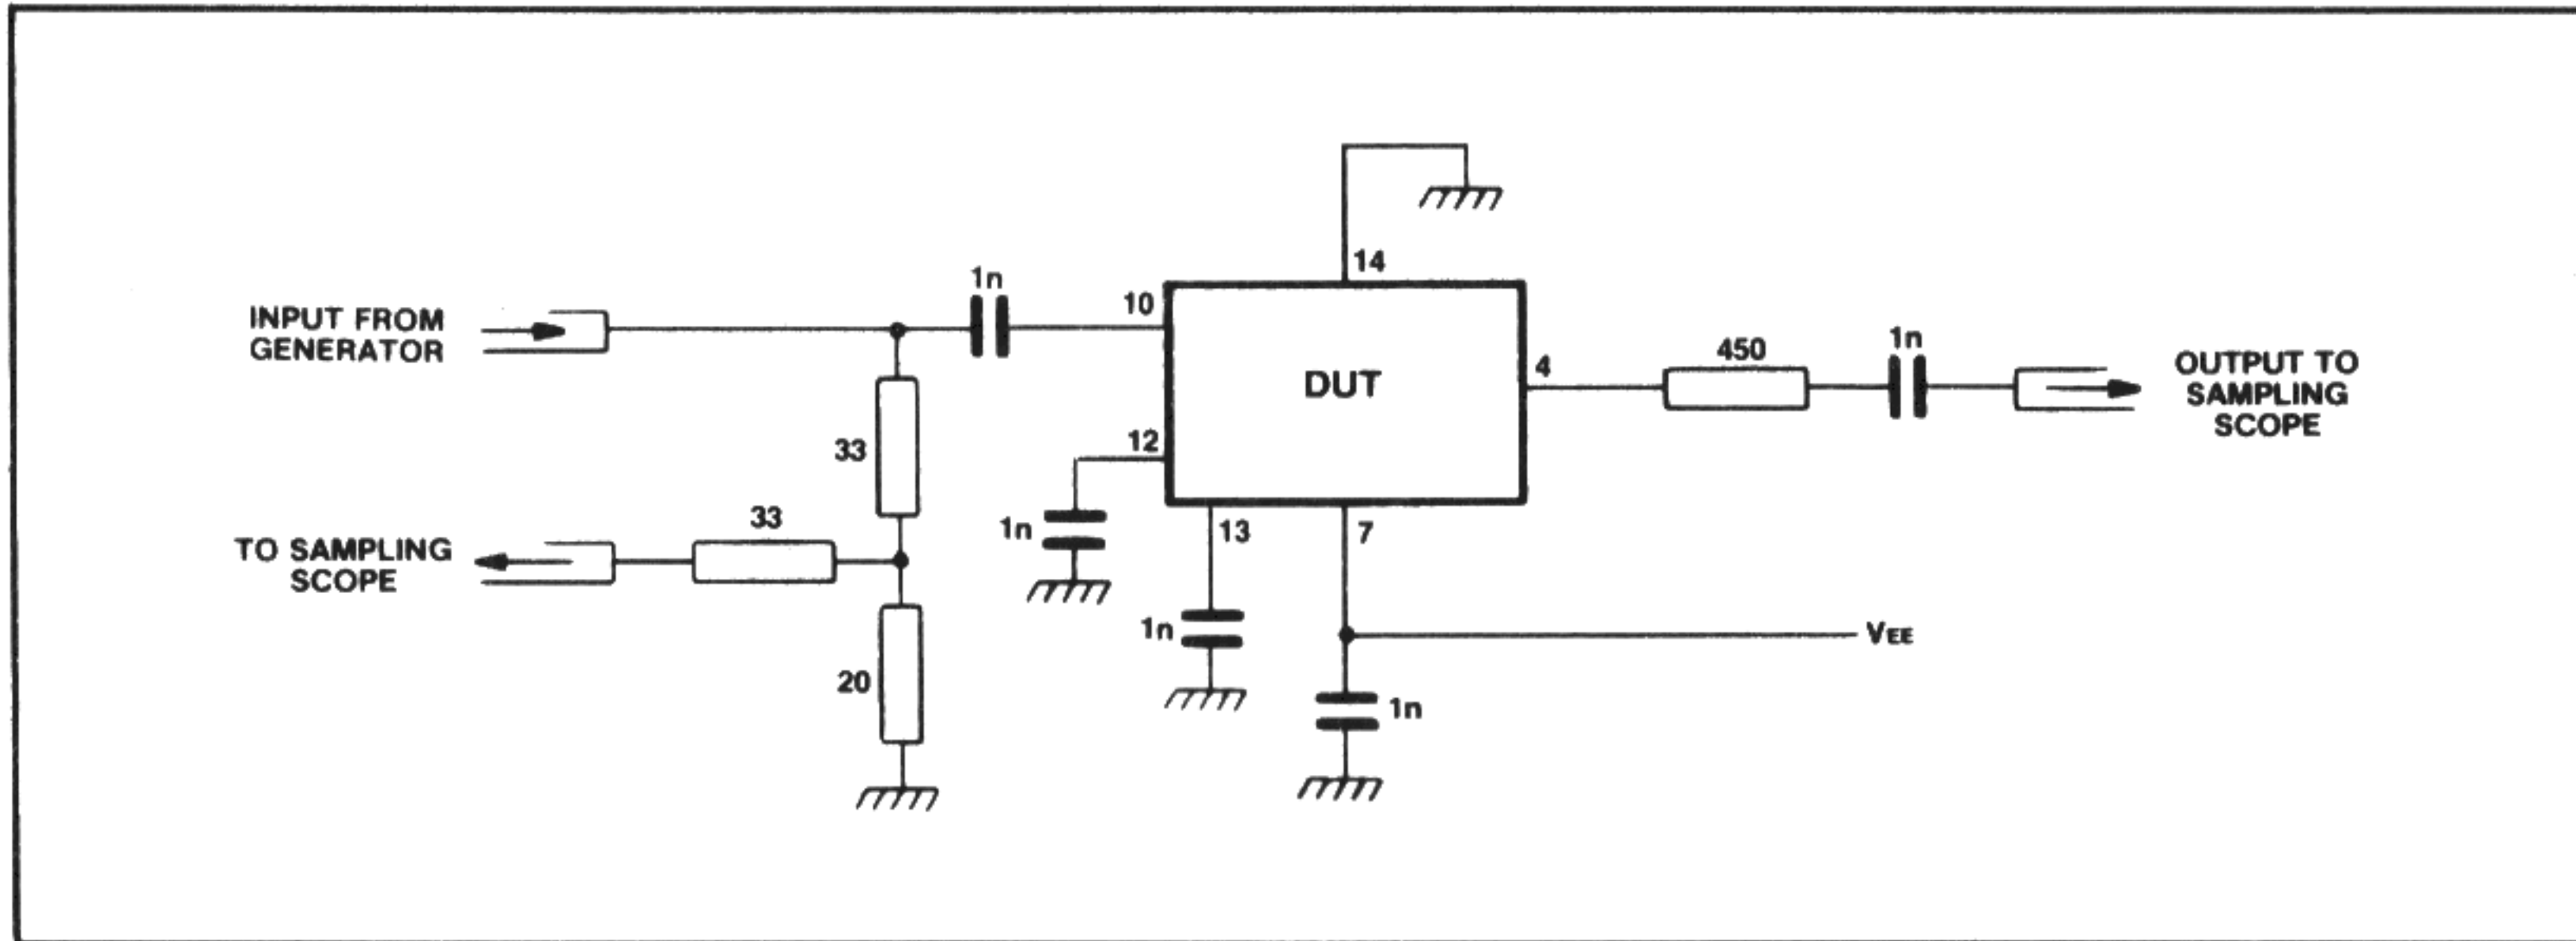

Fig.5 Test circuit
3. The test configuration for dynamic testing is shown in Fig. 5.